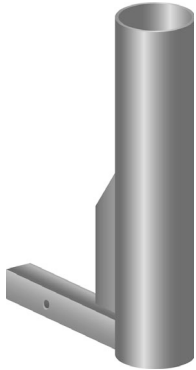

FIGURE 22. FRAME LOCKUP
CAUTION! Position the front-to-rear harness cable so it won't become pinched between the frame halves when pivoting the rear section forward. See figure 22.
3. Holding the seat post, slowly pivot the rear section forward until the curved locking brackets are fully connected onto the top rear pegs. See figure 22.